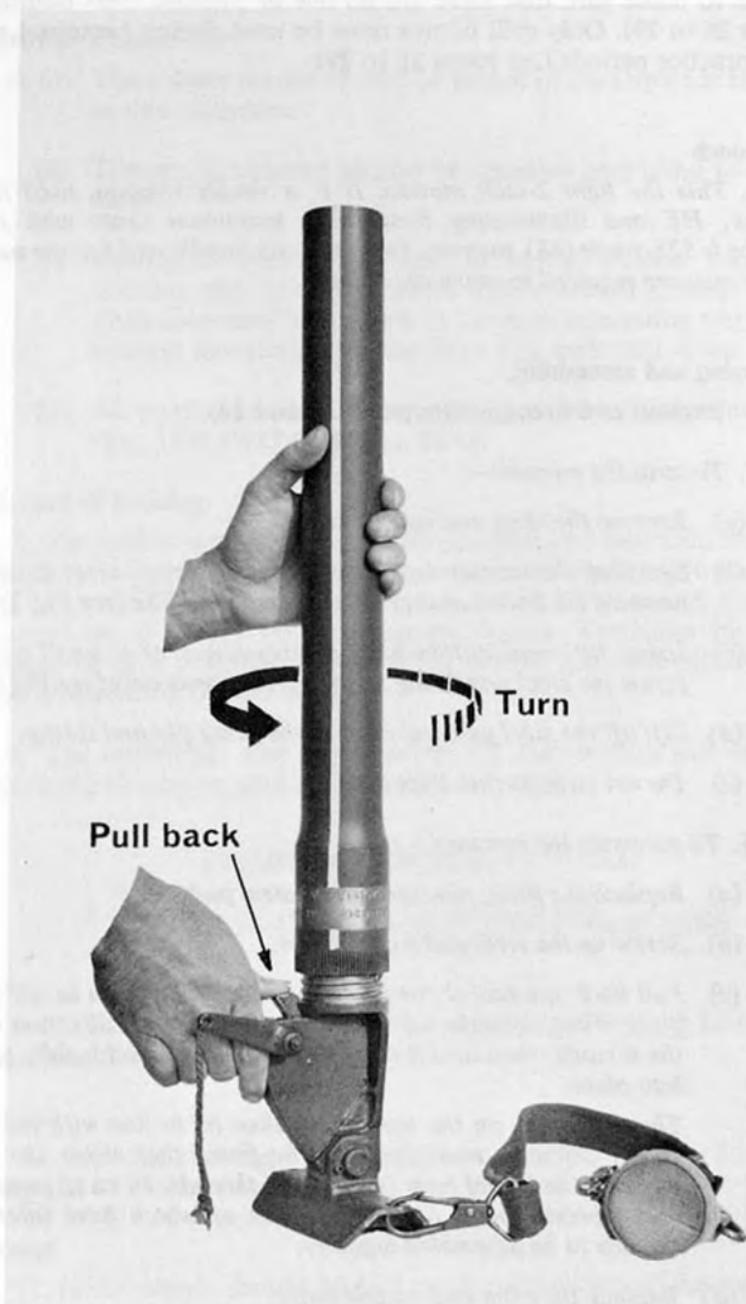

Fig 2.—Taking off the barrel
- (b) See that the mortar is empty. Pull back the barrel catch, and unscrew the barrel anti-clockwise until it is free (see Fig 2).